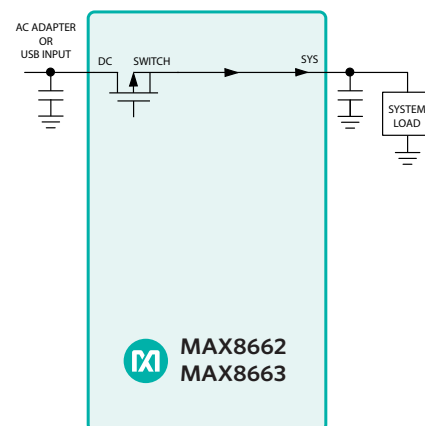

Figure 10. Power Path With External Supply, But No Battery
- 3) When an external power input is connected and there is no battery, the system is powered from the external power input (*Figure 10*).